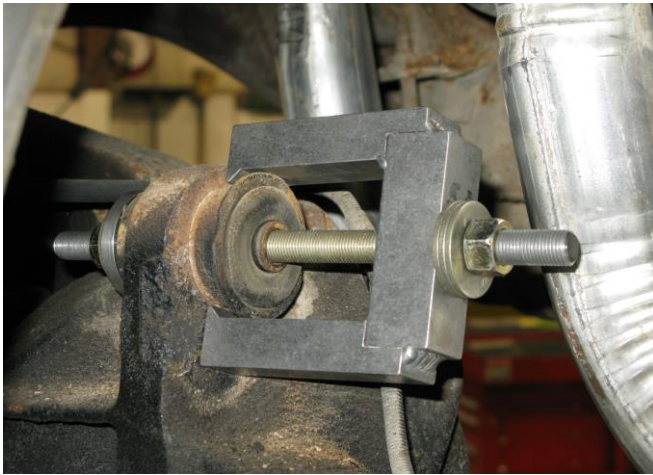

Figure 1 - Bushing removal
3. With the upper link removed, remove the rubber bushing from the rear axle housing. Detroit Speed offers the tool necessary for the removal and installation. It is available as P/N: 042501DS. Figure 1 below shows the tool assembled on the rear axle for bushing removal. Figure 2 shows the bushing being installed. **NOTE:** Be sure to lubricate the threads and the washers of the tool with anti-seize to prevent galling during installation and removal.